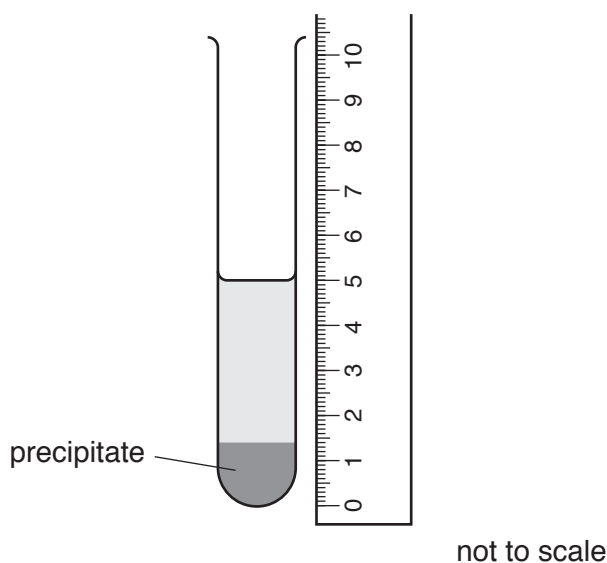

Fig. 1.2
Step 6 After five minutes, use a ruler to measure the height of the precipitate formed in each of the four test-tubes, as shown in Fig. 1.2. If no precipitate has formed record this as '0' in your table. Return the test-tubes to the water-bath.